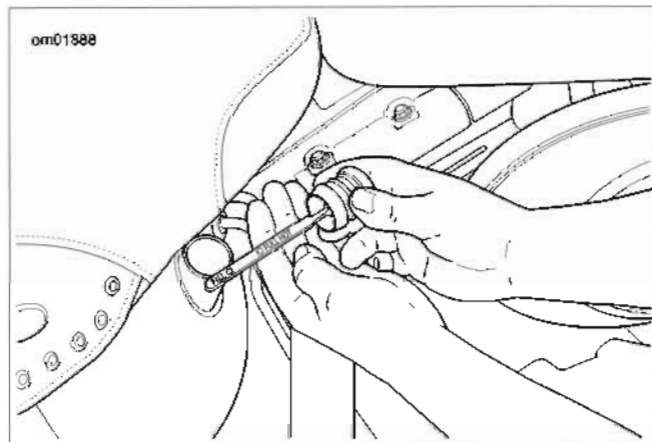

Figure 1-1. Checking Oil Tank Level
2. See Figure 1-1. Remove the engine oil dipstick.
8. See Figure 1-1. Fully install oil filler plug/dipstick in oil tank.